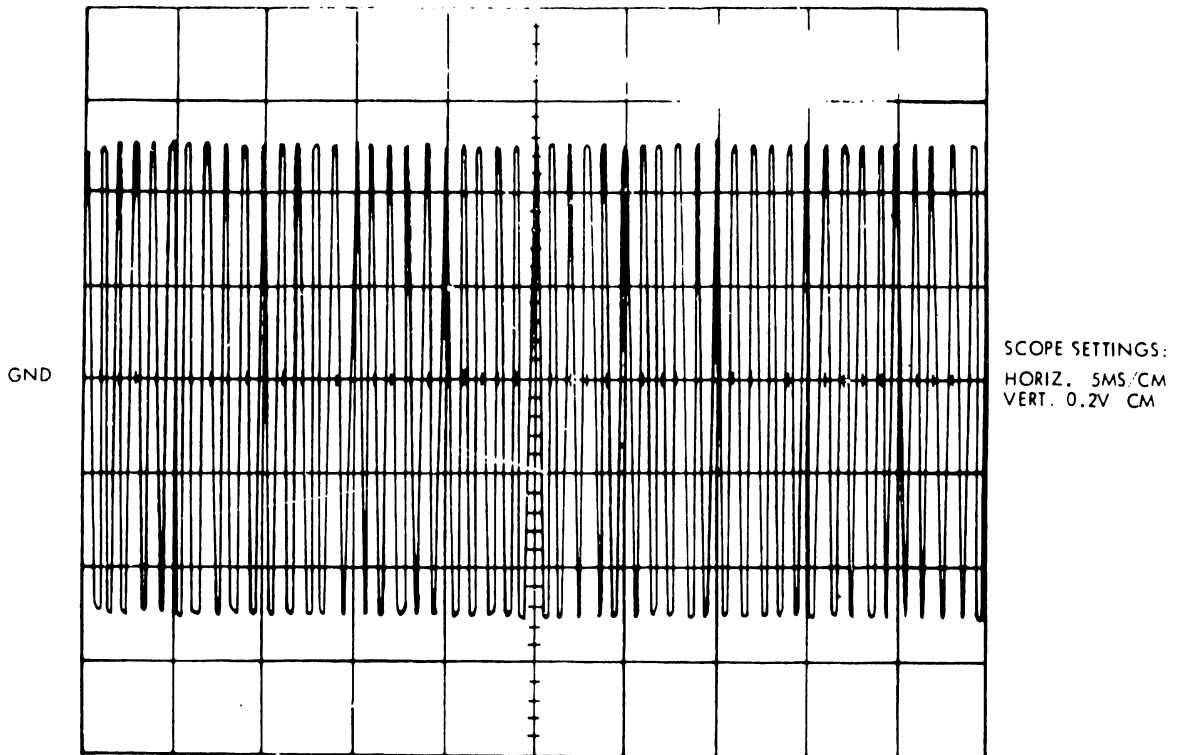

FIGURE 4-50 POSITION TRANSDUCER WAVEFORM
5. If the amplitude of the waveform is $1.0 \pm .05$ volts peak-to-peak (Figure 4-50), do not make any adjustment and proceed to step 7. If the waveform is not within tolerance, perform step 6.
The waveform will be similar to Figure 4-50 except for difference in amplitude.